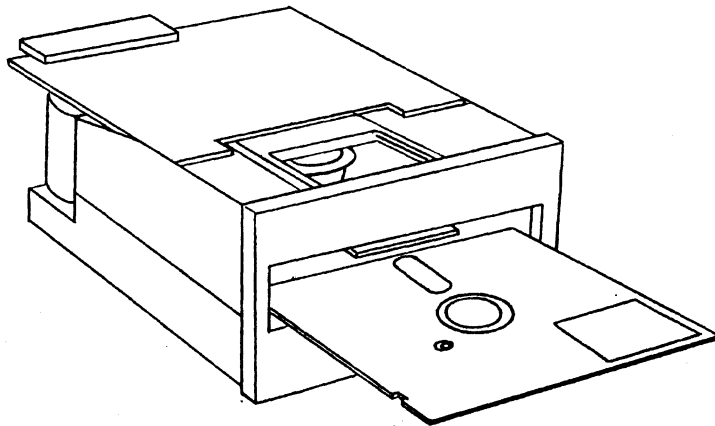

Figure 15 Diskette Orientation
- (c) Remove diskette from its storage envelope and insert in the drive. The index hole must be on the left side of the jacket and the label on the right towards the door (see figure 15).